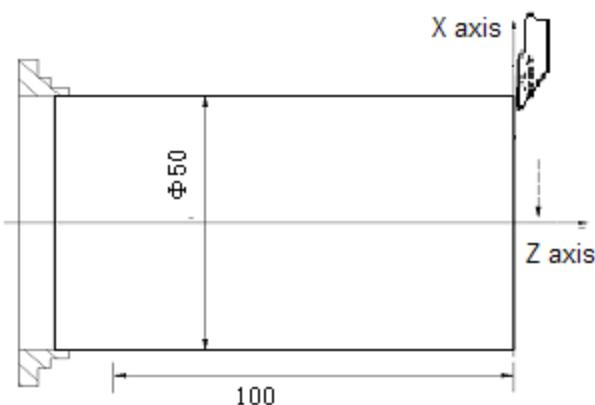

Fig.10-2
- (1) Move the tool into the safe position, execute T0100 in MDI mode and on the program status page, change the tool and cancel the tool offset;
- (2) Move the tool and the tool is cut along the workpiece end face, which is shown as Fig.10-2;